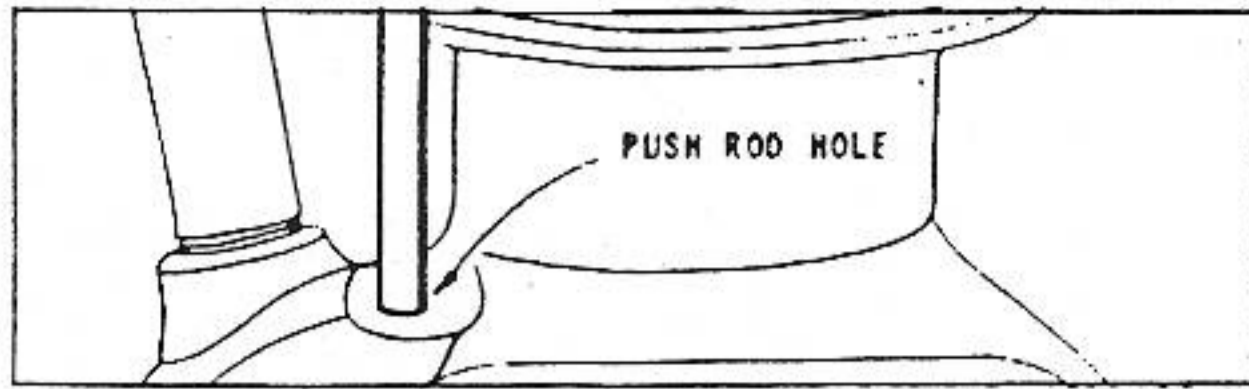

FIG. 200—PUSH ROD HOLE
3. The push rod and hole are worn. Fig. 200.